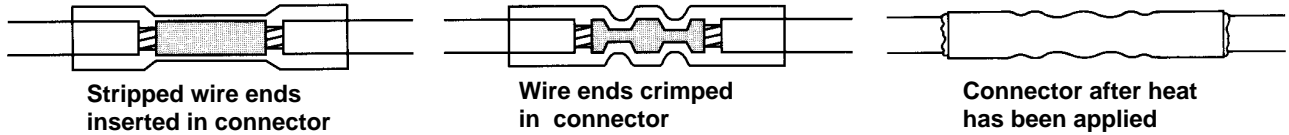

Figure 2. Install Sealed Butt Connectors
- b. See Figure 2. Insert each end into opposite ends of a butt splice connector (14).
- d. See Figure 2. Using the UltraTorch UT-100 (H-D 39969), Robinair Heat Gun (H-D 25070) with Heatshrink Attachment (H-D 41183), or other suitable radiant heating device, heat the crimped splice to encapsulate the butt splice connection. Apply heat from the center of the crimp out to each end until the meltable sealant exudes out of both ends of the connector.